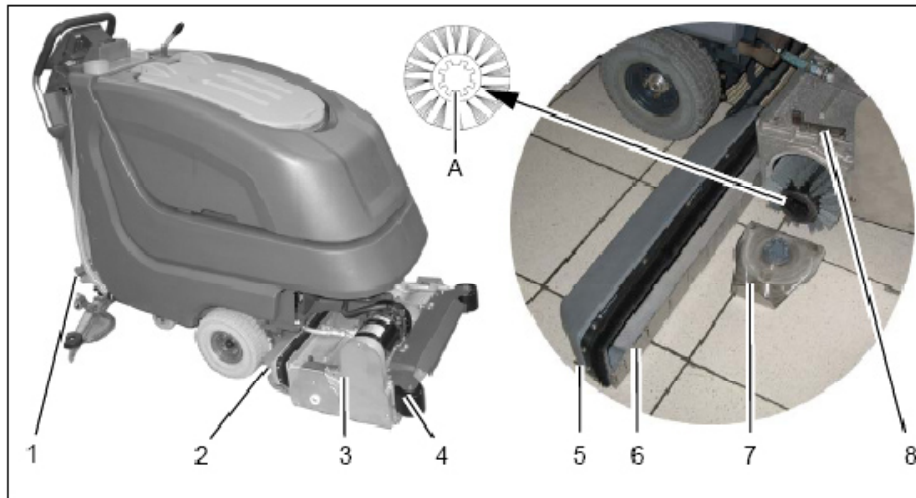

Fig.11
Clean hopper (Fig. 11/2) at daily intervals or as required.
Use quick-release (Fig. 11/5) to loosen
1. Lift cylindrical scrub head (Fig.11/3) by pedal (Fig. 11/1).
2. Release brushes (Fig. 11/7) via locking lever (Fig. 11/8).
Check deflector rollers (Fig. 11/4) at weekly intervals and replace if required.